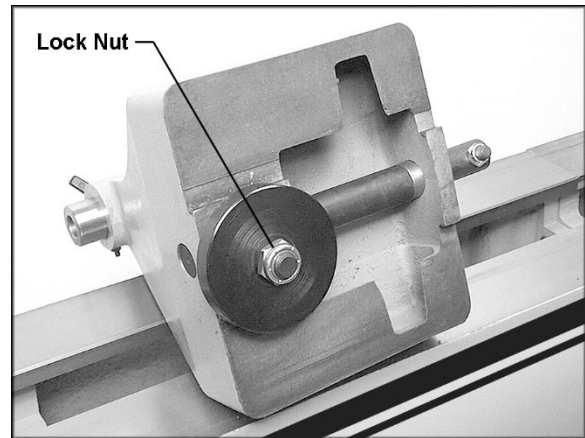

Figure 14
If the headstock, tailstock or tool rest base does not tighten properly down against the Lathe bed when the locking handle is tightened, it may need adjusting. Figure 14 uses the tailstock as the example:
2. Turn the tailstock on its side, and tighten the lock nut with a wrench. See Figure 14.